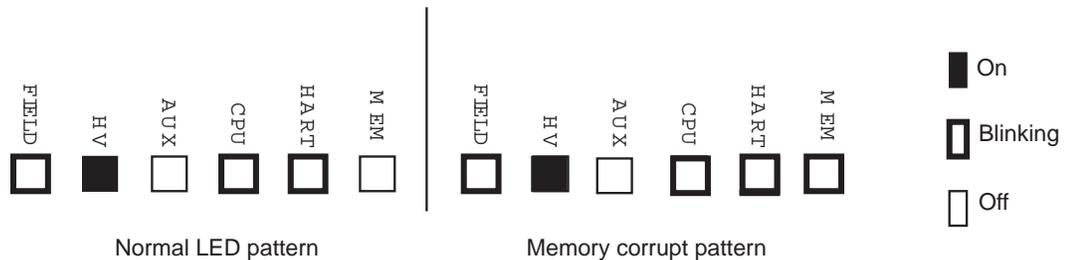

Figure 22: LED indicators
See the Tables on page 76 for a summary of the LED indications. Figure 22 illustrates the LED indicators.
The FLASH chip stores the device description (DD) software. The transmitter does not operate if the FLASH chip is corrupt. A HART device that connects to the transmitter displays the message, No Device Found. In this situation, the LED bank displays a distinctive pattern shown in Figure 22.